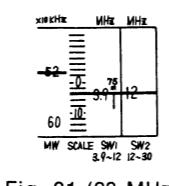

Fig. 21 (28 MHz)
| (9) | " | 28 MHz | 28 MHz [Fig. 21] | " | C ₁₉₀ (OSC Trimmer) C ₁₀₆ (ANT Trimmer) |